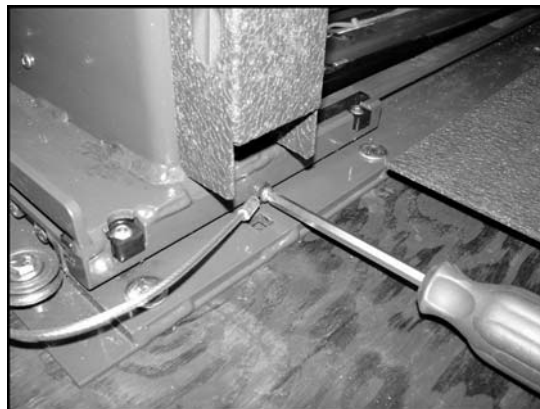

FIGURE 3-11
6. Refer to **Figure 3-11**. Remove hex screw to detach anchored end of cable. Retain plastic guide for installation if applicable.
14. Install existing hex screw to anchor the cable end onto the baseplate as shown in **Figure 3-11**, Section E.